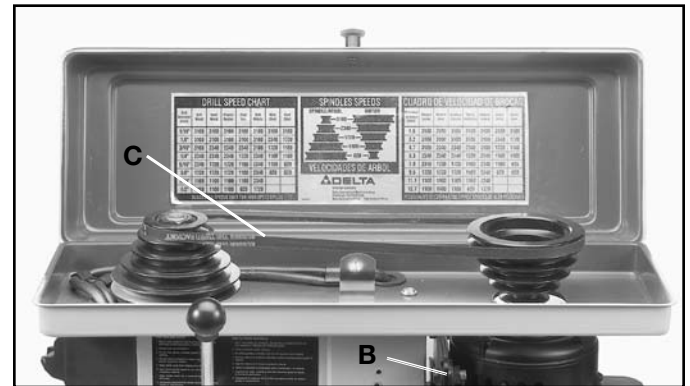

Fig. 24
5. After the belt is positioned on the desired steps of the motor and spindle pulleys, pivot motor away from the drill press head until the belt is properly tensioned and tighten tension lock knob (B) Fig. 24. The belt should be just tight enough to prevent slipping. Excessive tension will reduce the life of the belt, pulleys and bearings. Correct tension is obtained when the belt (C) can be flexed about one inch out of the line midway between the pulleys using light finger pressure.